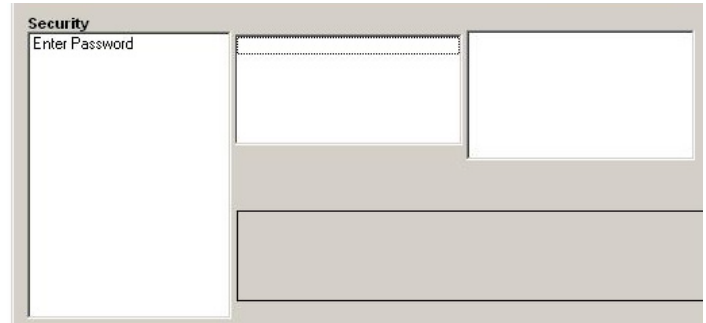

Figure 47: Password window
2. If the system is locked, the window is similar to *Figure 47* below.